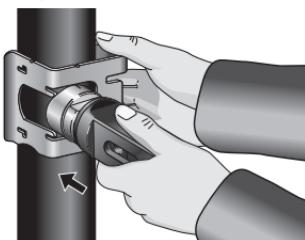

Figure 10 – Insert Fitting Through Positioning Guide
6. Fully insert the fitting through the fitting guide into the hole in the pipe. The curve of the fitting should match the curve of the pipe and sit on the pipe with no gaps. The expander should be perpendicular to the pipe. (*See Figure 10*).